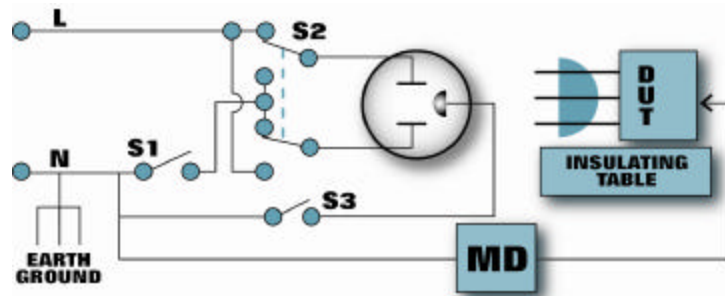
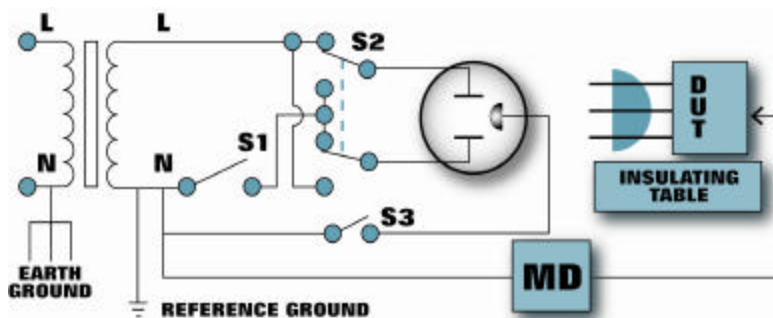

Figure 2: Enclosure Leakage Test Neutral Referenced to Earth Ground
Figure 3: Enclosure Leakage Test Isolated Input, The Output of the Isolation Transformer is not Referenced to Earth Ground
Every DUT that is powered from AC line power is going to have a certain amount of leakage back to earth ground since power distribution systems are ground referenced. Much of the leakage seen during a Line Leakage test can be due to the distributed capacitance of the DUT and the applied voltage. Figure 2, shows a Line Leakage test circuit where the neutral is referenced to earth ground. With this configuration any internal leakage in the test instrument and fixture is added to the leakage of the DUT. Since most Line Leakage testers are powered from the line there will always be some internal leakage in the Measuring Device (MD) circuits. Associated Research has designed our testers to minimize the effect of this ground leakage but it is impossible to reduce this leakage to zero without isolating the DUT power source. Figure 3 shows the same test circuit but incorporates the use of an isolation transformer for DUT power. Performing the test in this manner greatly reduces the internal leakage making this a more accurate test.